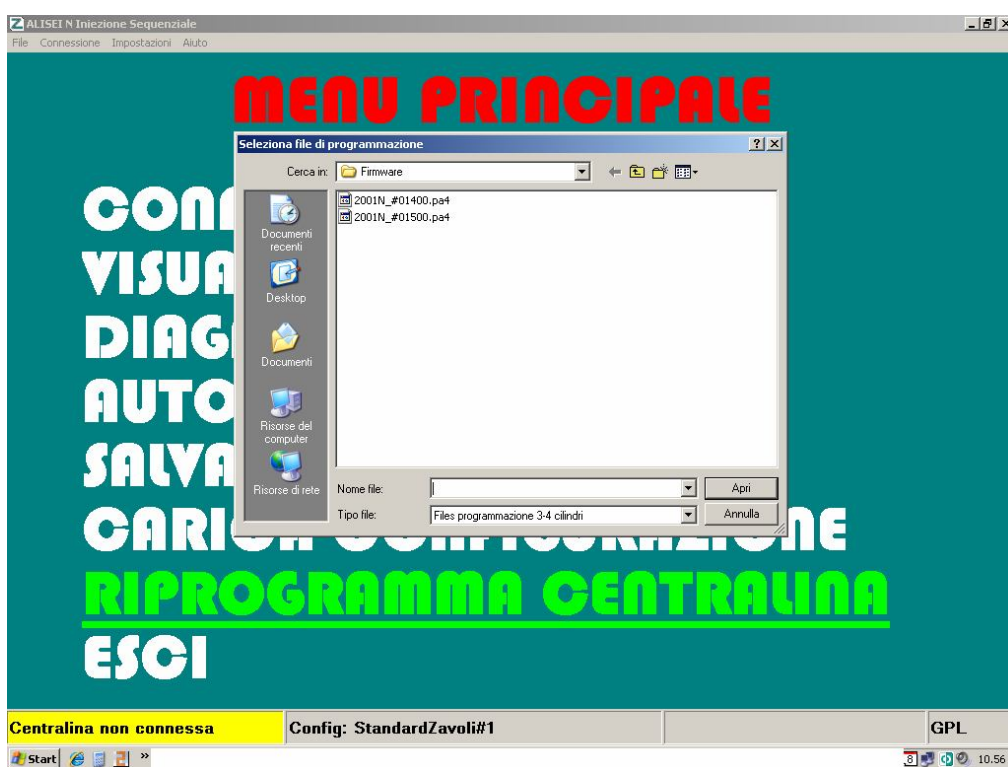

Fig. 3.1-1
- Make sure to use the latest available version of our firmware (fig. 3.1-1). Please contact the Zavoli Technical Support Center if you have any questions.